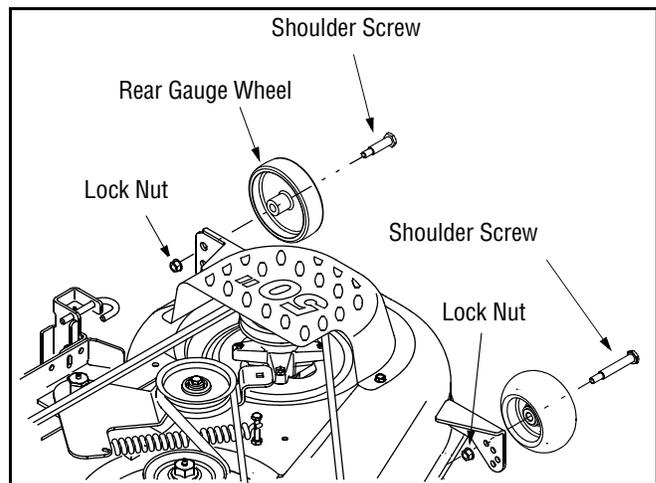

Figure 14
- Place the tractor on a firm and level surface, preferably pavement. Refer to Figure 14, and proceed as follows: